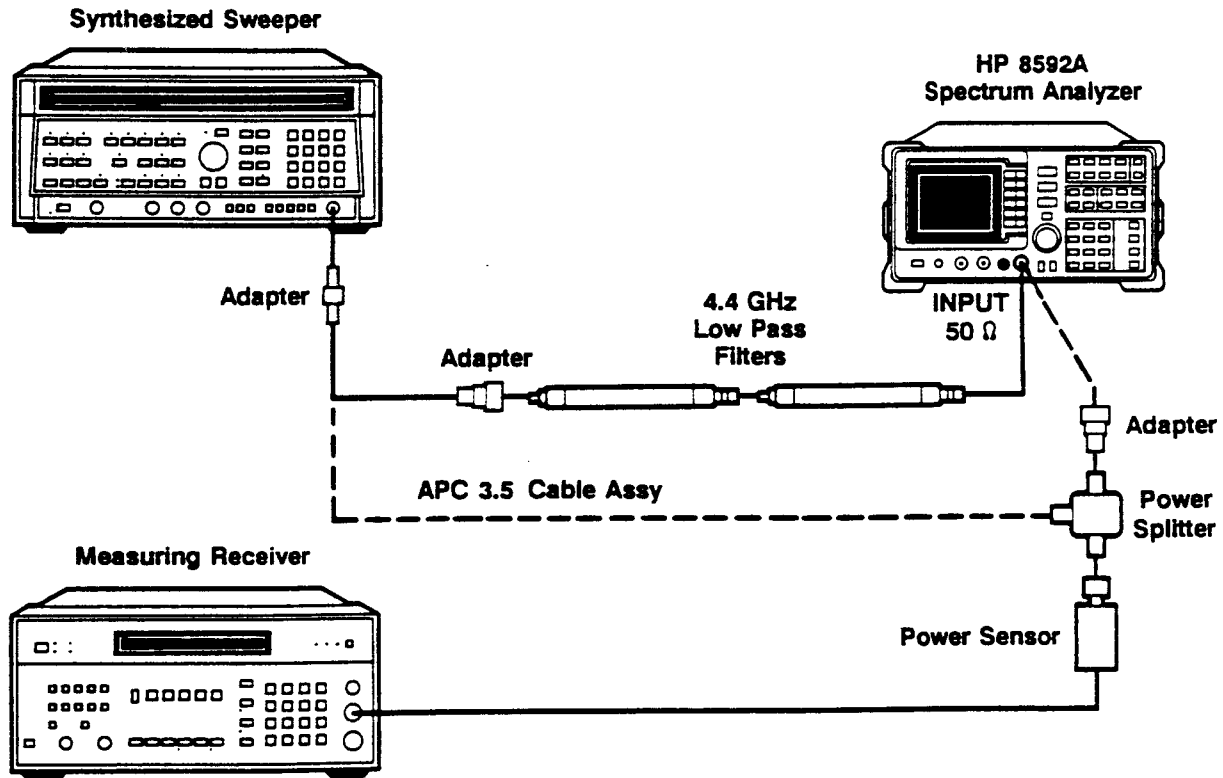

Figure 1-4. Second-Harmonic Distortion Test Setup (>2.9 GHz)
- 11. Connect equipment as shown in Figure 1-4, with the output of the HP 8340A/B connected to the input of the power splitter, and the power splitter outputs connected to the HP 8592A and the power sensor.
- 21. Connect the equipment as shown in Figure 1-4 with the filters in place.